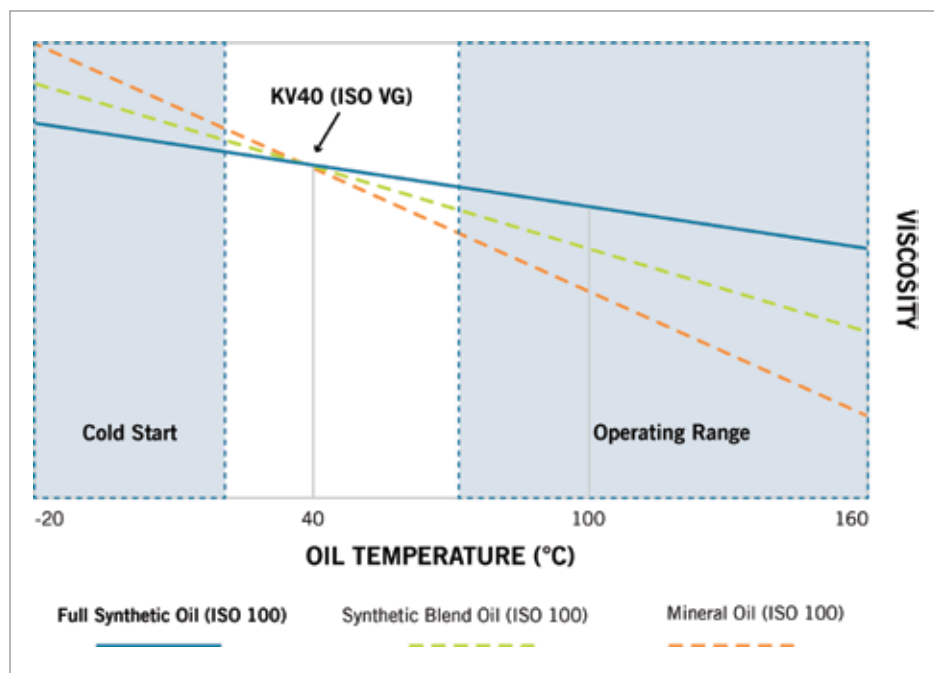

Figure 1: Shown is a comparison of oils with different viscosity properties (full synthetic, synthetic blend, and mineral oil).
For example, if the oil in a particular blower generally operates at 100°C, then another fluid property, namely the Viscosity Index (VI), should receive attention. This value is a characterization of the amount of dependence the viscosity has on changing temperature. A higher VI is usually desirable since this means the oil will maintain its thickness better at temperatures above 40°C and will better resist thickening at temperatures below 40°C. Some full synthetic oils exhibit extremely high VIs, positioning them above all mineral oils, blends, and synthetic blends. For the operator or owner, this makes colder startups and higher running temperatures possible without sacrificing protection for critical internal components (See Figure 1).